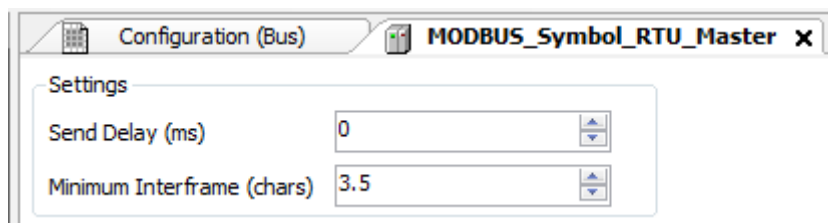

Figure 85: MODBUS RTU Master Configuration Screen
- Configure the general parameters of the MODBUS Master protocol, like: transmission delay times and minimum inter-frame as in Figure 85.